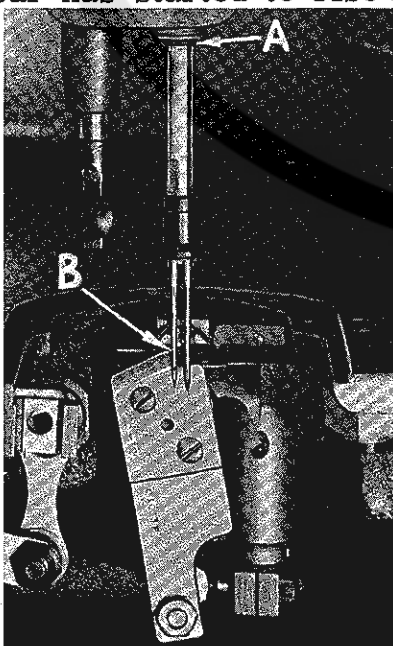
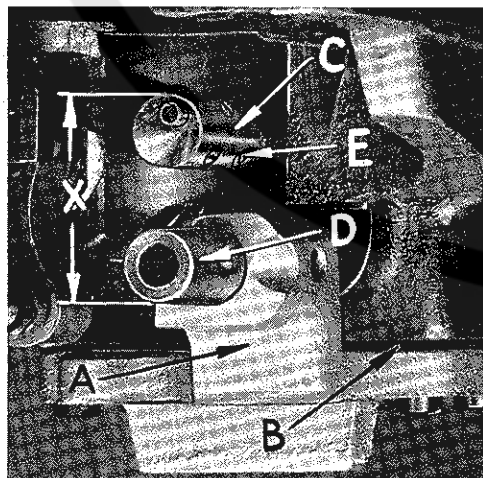

Fig. 14
Fig. 16
Turn handwheel in operating direction until the needle bar has started to rise from its lowest position and the timing line (A, Fig. 14) at bottom of $\frac{3}{64}$ inch hole is even with the bottom of the lower needle bar bushing. At this time, the point of the sewing hook (B) should be even with the centerline of the eye needle on the 100 P and 100 NTN machines, centered between the eye needle and the hook needle on the 100 S machine and $\frac{1}{16}$ inch past the eye needle in its direction of travel on the 100 LS machine. The above adjustment may be made by loosening the three screws (E, Fig. 16) in the hook driving barrel and rotating the barrel until the above condition is satisfied.
This is done by loosening the Allen screw located in the lower bracket. Move the sewing hook shaft bushing (D, Fig. 16) either to the left or right to locate the sewing hook properly. Re-tighten the Allen screw.
Should it become necessary to replace either the hook carrier bracket (A, Fig. 16) or the shim gasket (B) for it, it is extremely important that the proper distance between the hook barrel (C) and hook carrier bushing (D) be maintained. Use a micrometer to check this dimension as shown at "X" in Fig. 16. On Styles 100 P, 100 S, and 100 NTN, this dimension is 1.375 inch plus .005 inch and on Style 100 LS, it is 1.400 inch plus .005 inch.